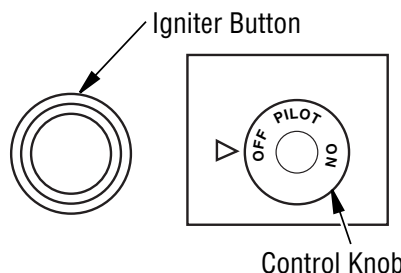

Figure 55 - Control Knob and Igniter Button Location
5. Wait five (5) minutes to clear out any gas. Then smell for gas, including near the floor. If you smell gas, STOP! Follow "B" in the safety information, column 1. If you don't smell gas, go to the next step.
6. Press in and turn control knob counterclockwise to the PILOT position. Press in control knob for five (5) seconds (see **Figure 55**).